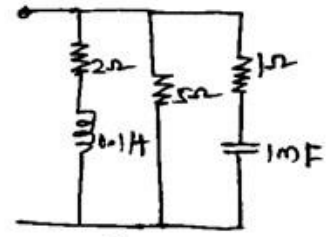

fig 5.1
9. For the circuit shown in fig5.1 determine resonance frequency and the input impedance.